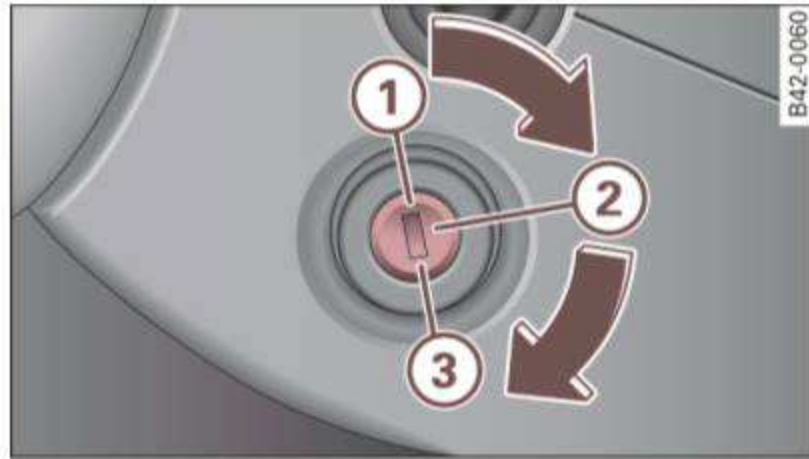

Fig. 63 Ignition lock positions
In position ⇒ fig. 63 ① both the ignition and engine are off, and the steering is locked.
- Turn the ignition key to position ③ ⇒ *page 77, fig. 63* - do not depress the gas pedal when starting the engine.
- Turn the ignition key to position ① ⇒ *page 77, fig. 63*.